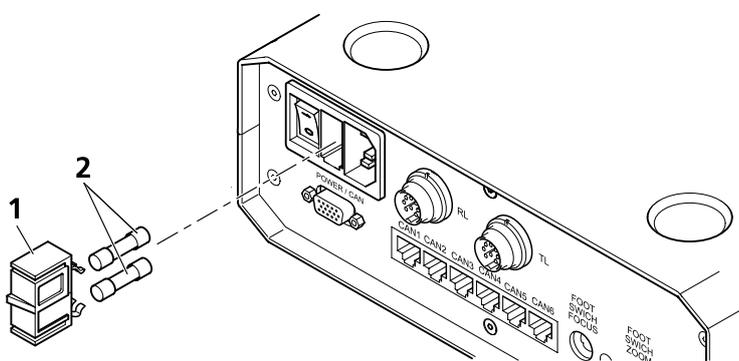

Fig. 52 Replacing the fuse on the EMS-2
- Pull out the fuse insert (Fig. 52/1) at the rear side of the EMS-2. To do this, press the snap-in mechanisms on the top and on the bottom of the fuse insert.
- Replace the defective fuse (Fig. 52/2) (fuse type: T 2.5 A/E, 250V, 5x20mm).